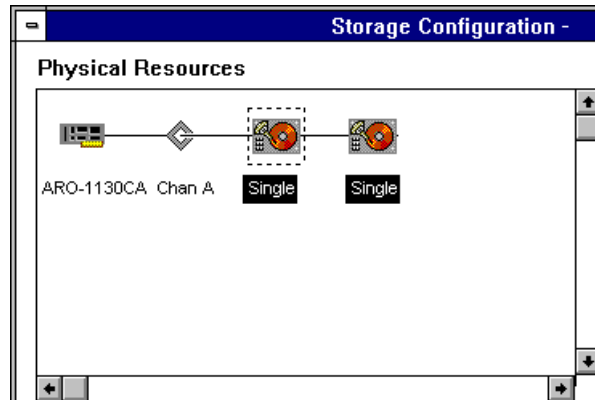

Figure 3-2. Selecting Array Members
- 3 Select disks for the new array by clicking disk icons  that have the word **Single** beneath them, as shown in Figure 3-2.